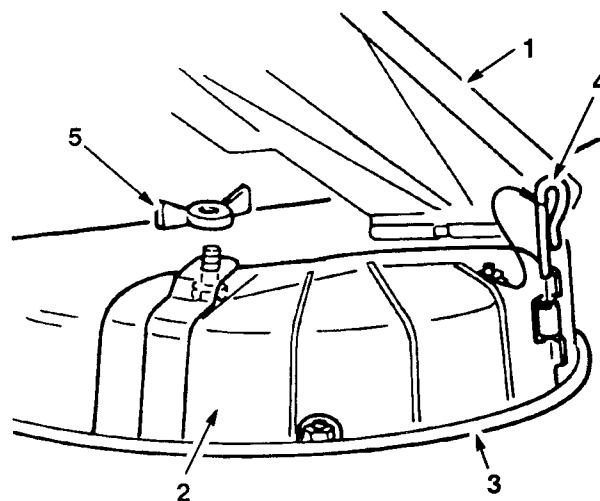

Figure 11
1. Lift the grass deflector and place the discharge cover over the opening onto the lower lip of the mower and slide into the front hinge (Fig. 11).
2. Slide the hinge pin through the hinge (Fig. 11).
3. Secure the discharge cover to the mower with the wing nut (Fig. 11).